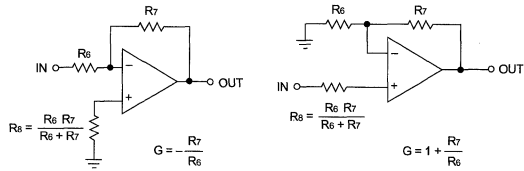
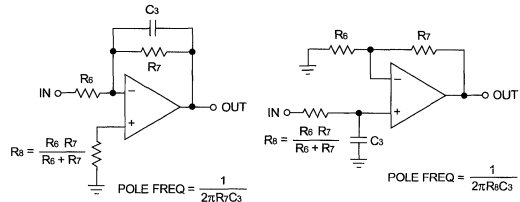

Figure 5. Uncommitted Op Amp Gain Configurations
Figure 6. Using the Uncommitted Op Amp to Add a Real Axis Pole
7. This procedure is based on unity gain output for the desired function. For additional gain, the fourth (uncommitted) operational amplifier should be used as an inverting or noninverting gain stage following the selected output. See Figure 5. A third pole on the real axis of the s-plane may also be added to the transfer function by adding a capacitor to the gain stage as shown in Figure 6.